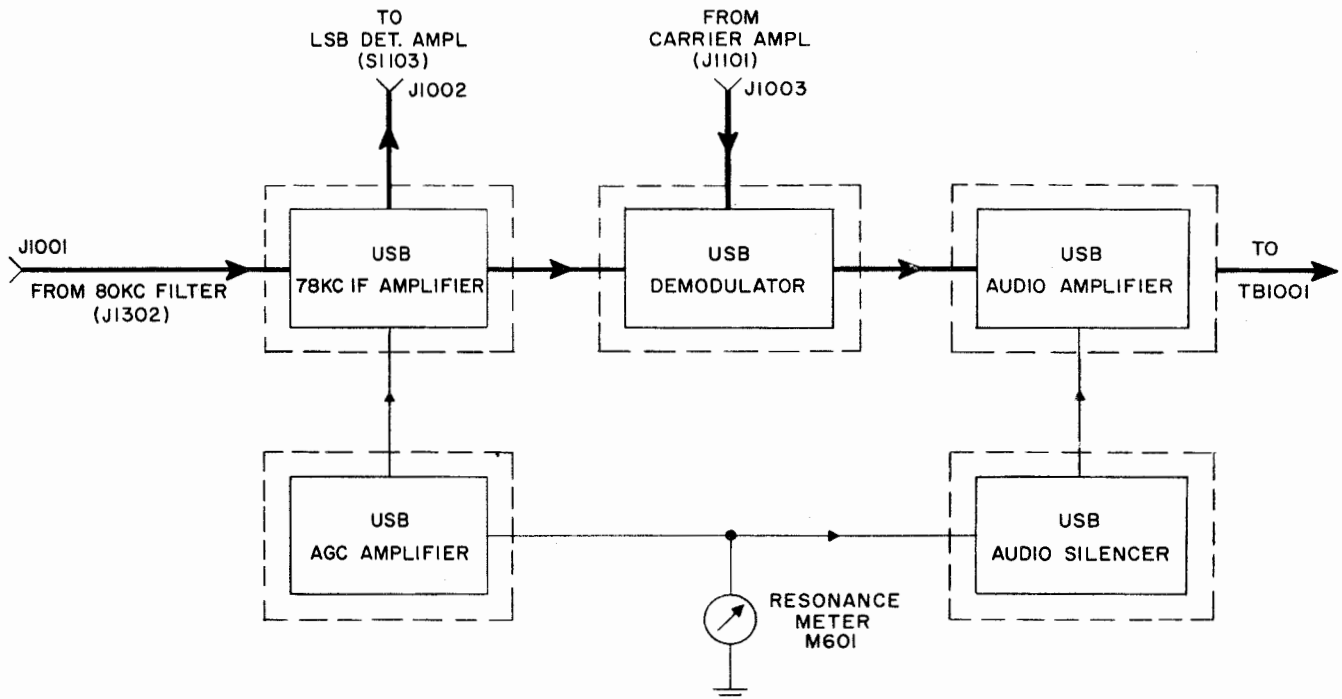

Figure 5-44. USB Detector-Amplifier, Functional Block Diagram
a. DIAGRAMS.—Figure 5-44 is a functional block diagram of the USB detector-amplifier circuits. It is followed by these functional schematic diagrams:
Figs. 5-44 to 5-51